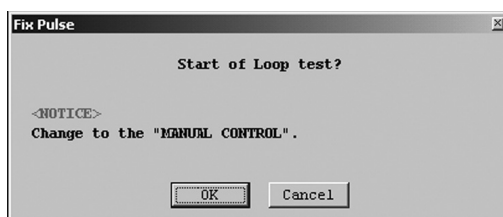

Fig.62
- ③ A message box as shown in Fig. 62 appears. If you want to use a pulse output for the simulated output, click on "OK".